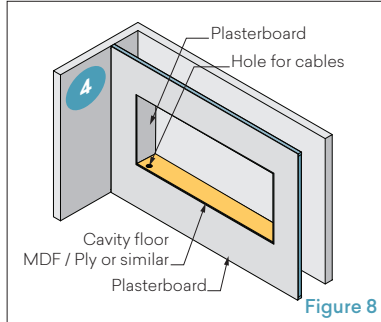

Figure 8
4. Finish the wall off using plasterboard or timber board on the wall panels and timber board on the cavity floor. (Figure 8)